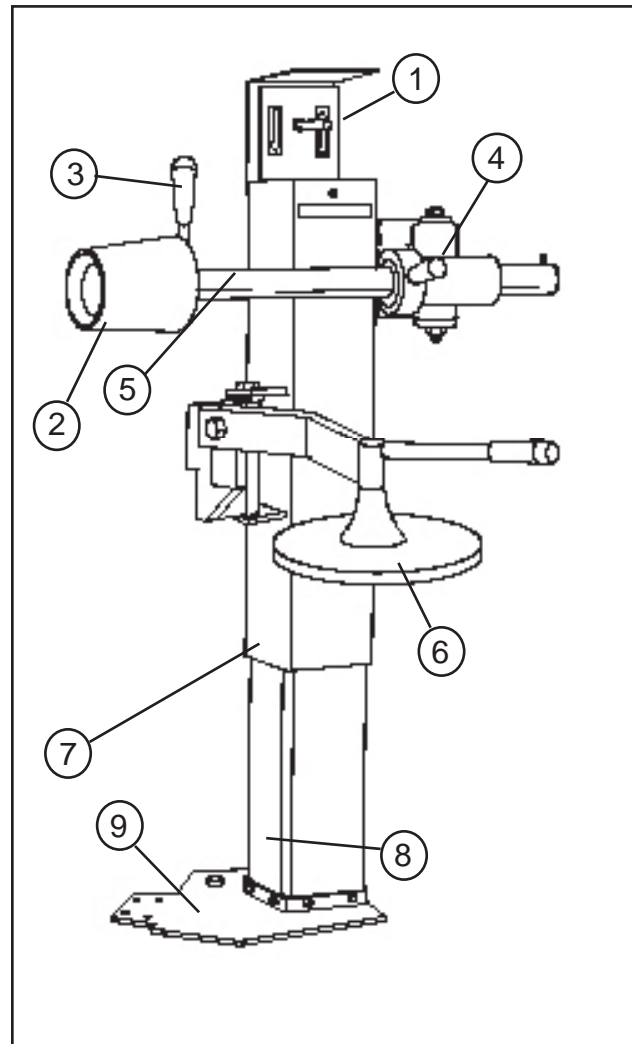

Figure 4 - Nomenclature
Before using the 87434 Bead Assist Attachment, it is suggested that you become familiar with the nomenclature of components (Figure 4).
**A.** Press the raise button (#2 Fig. 4) to raise the column and consequently the roller and the lower bead-push device.
**B.** Press the descent button (#1 Fig. 4) to lower the mobile column and consequently the roller and the lower bead-push device.